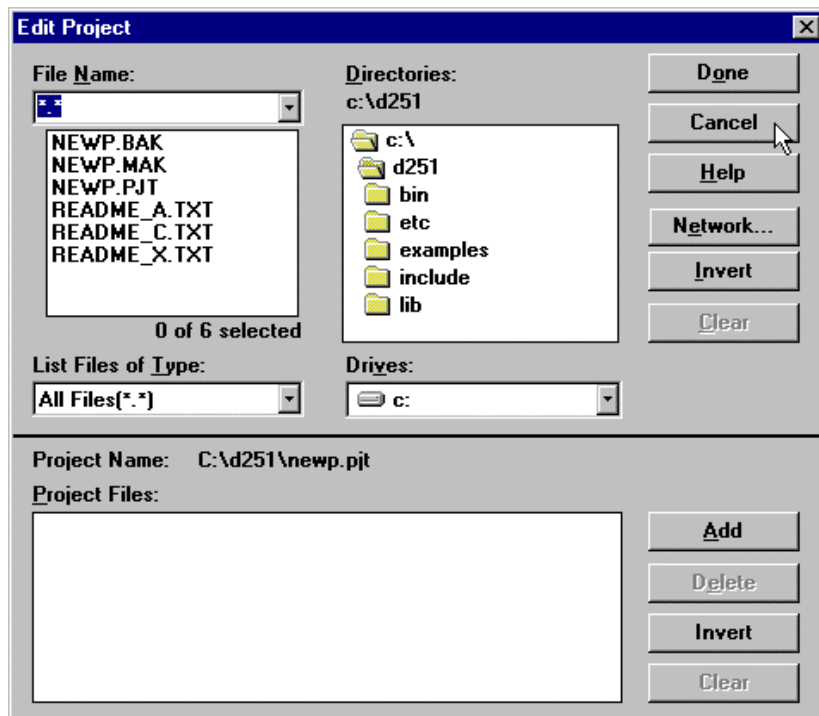

Figure 5 Edit Project
5. When the project file has been created, the EDE project manager asks you to specify the source files of your project, using the dialog of Figure 5. Since we do not have any source files yet, we skip this dialog by pressing **Cancel**. As soon as we have created a source file, we will use this dialog to the source file to our project.